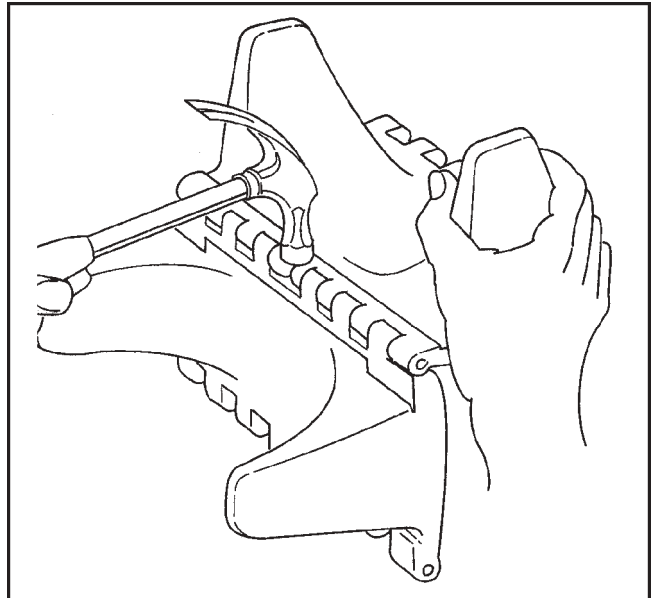
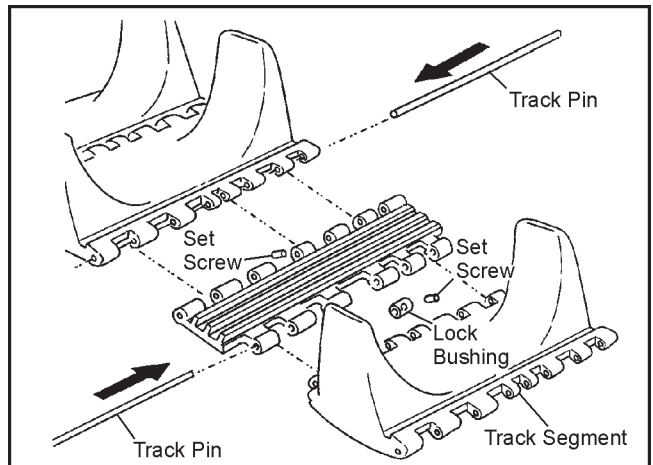

Figure 11-1. Track Assembly.
Figure 11-2. Track Assembly.
1. Join 2 track segments together, lining up the 1/4" holes. See Fig. 11-1. Hammer a track pin through the holes, placing the lock bushing as shown in the centre space provided. When installing the track pins which hold the track segments together, alternate the direction in which the pins are pushed through the track segment holes. See Fig. 11-2.